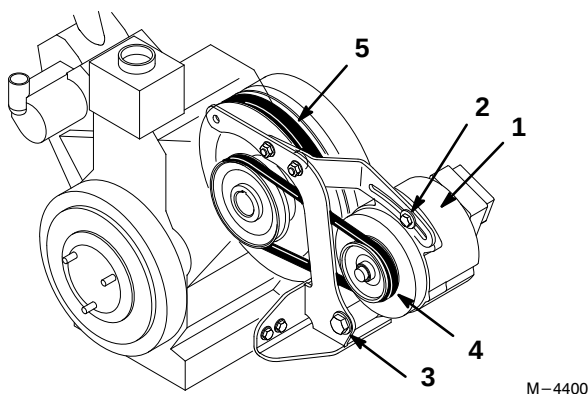

Figure 55
3. Loosen both upper and lower alternator bolts to allow alternator to rotate and loosen belt (Fig 55).
4. Remove belt from pulley, alternator and over clutch pulley (Fig 55).
6. Rotate alternator out away from engine and tighten lower and upper alternator bolts (Fig 55).